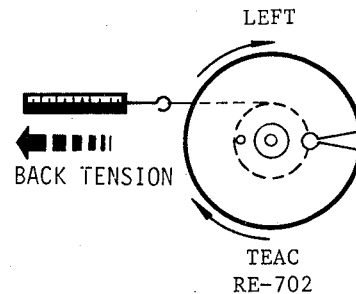

Fig. 6-5 Tension Measurement
2. Place the empty reel (RE-702) and spring scale on the left reel table as shown in Fig. 6-5.
5. If tension is not within the specified limits, adjustment can be made by loosening the securing screw (A) and moving the back lever spring hook. Then tighten the securing screw.